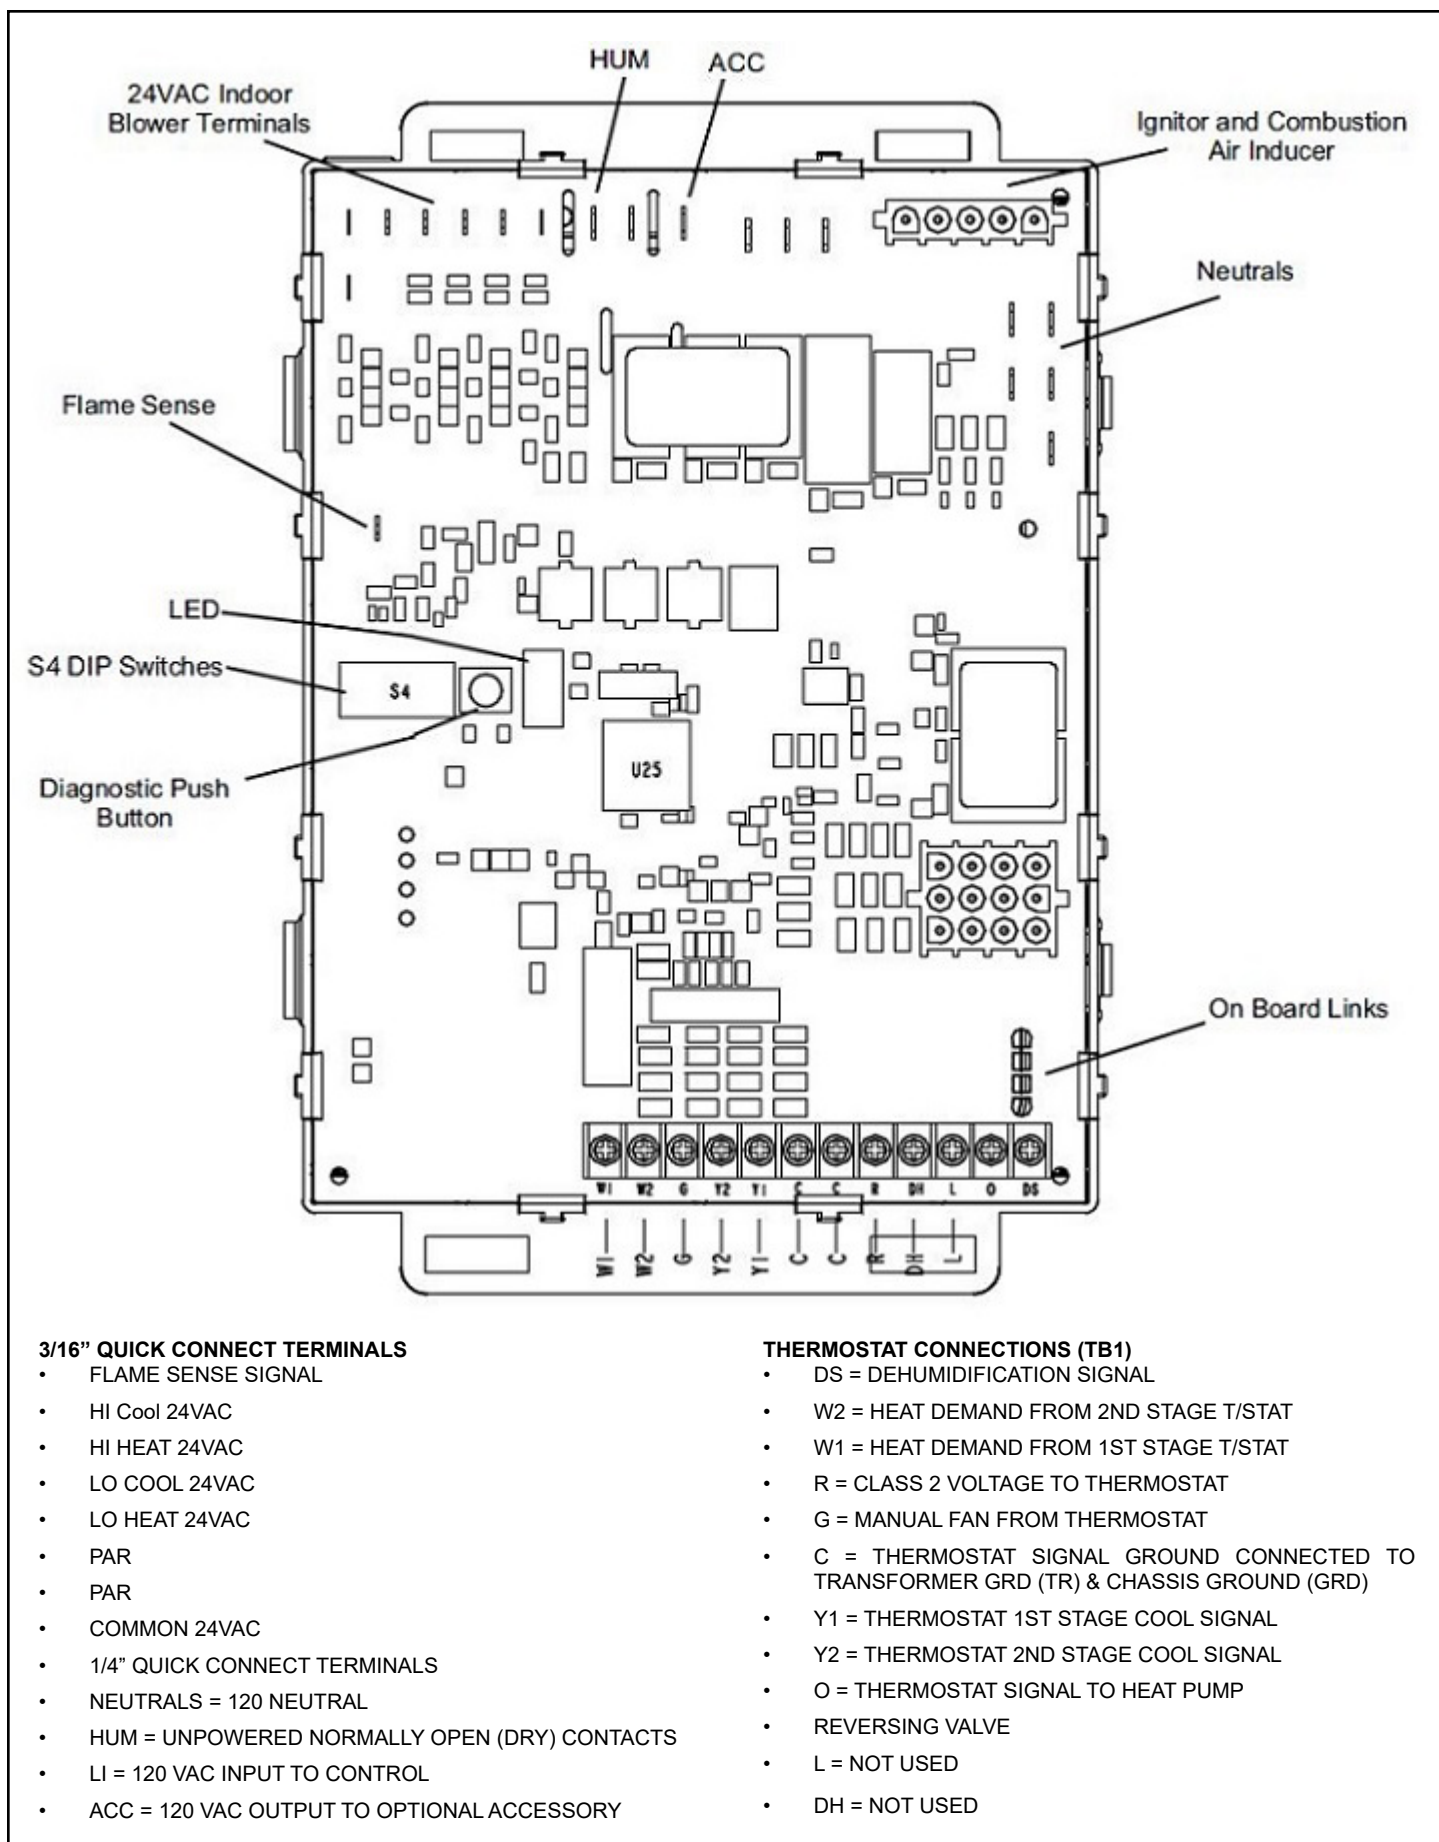

Figure 57. Resideo/Honeywell Integrated Furnace Control 103132-xx
7. One line voltage "ACC" 1/4" spade terminal is provided on the furnace integrated control. See Figure 57 for integrated control configuration. This terminal is energized when the indoor blower is operating. Any accessory rated up to one amp can be connected to this terminal with the neutral leg of the circuit being connected to one of the provided neutral terminals. If an accessory rated at greater than one amp is connected to this terminal, it is necessary to use an external relay.